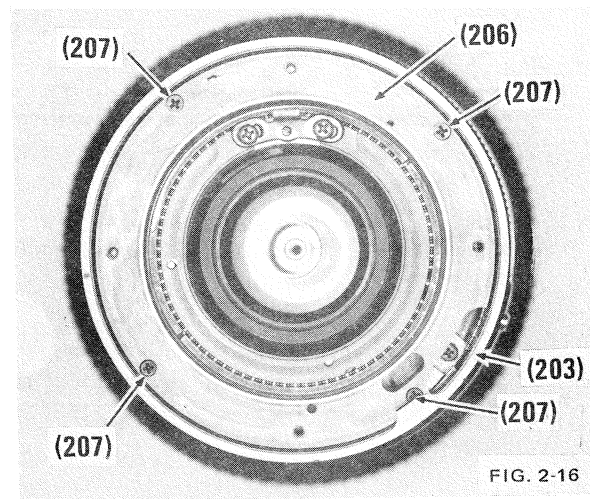

FIG. 2-16
- c) Remove four screws (207); lift mount frame (B) assembly (206) upwards and away from lens. Fig. 2-16.
- d) Remove aperture ring (203) from mount frame.